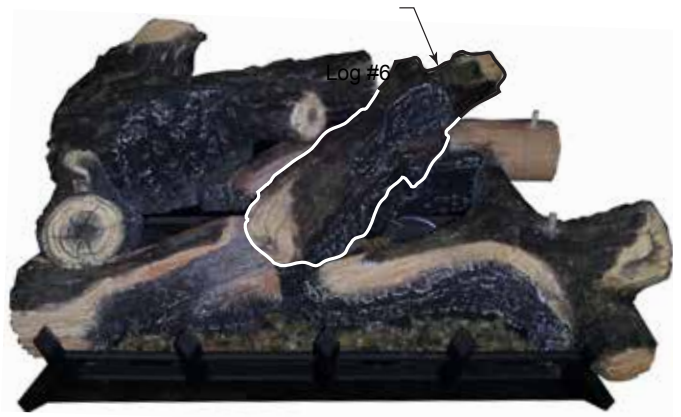

Figure 41
6. Place center top log #6 on two (2) pins on top of log #2. The front end of log #6 should rest on log #4. *Figure 41*